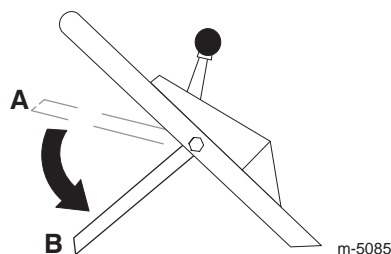

Figure 17
- Release the blade control bail; refer to position B in Figure 17. You should hear a “bang.” The blade should stop in 3 seconds.
- Move the blade control bail down to its lowest position (Position B in Fig. 17).